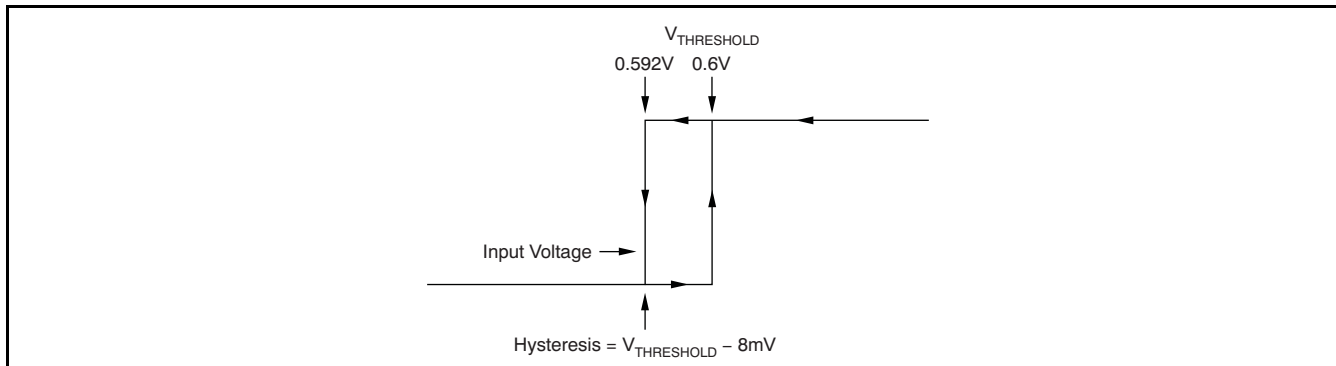

Figure 2. Typical Comparator Hysteresis
- (1) Hysteresis refers to the threshold (the threshold specification applies to a rising edge of a noninverting input) of a falling edge on the noninverting input of the comparator; see Figure 2.
- (2) Specified by design
- (3)  $V_{ID}$  refers to the differential voltage at the comparator inputs.
- (4) Pulling the open-drain output to the range of 2.7 V to 18 V is permissible, regardless of  $V_S$ .
- (5) The comparator response time specified is the interval between the input step function and the instant when the output crosses 1.4 V.
- (6) The  $\overline{\text{RESET}}$  input has an internal 2-M $\Omega$  (typical) pulldown. Leaving  $\overline{\text{RESET}}$  open results in a LOW state, with transparent comparator operation.